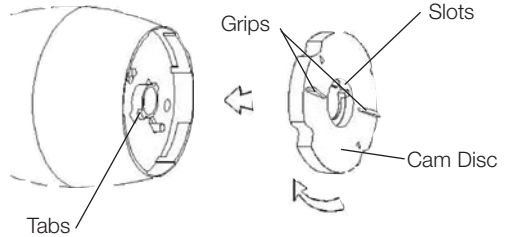

Figure 2
2. Line the Tabs on the Motor Body up with the slots on the Cam Disc. Insert Cam Disc into the Motor Body. Using the two Grips on the Cam Disc, turn slightly clockwise until the Disc clicks into position. (See Figure 2.)